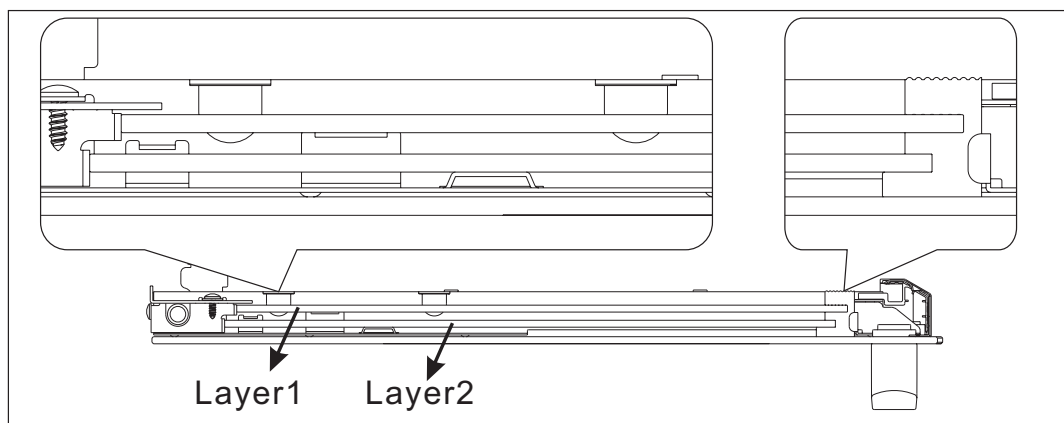

Figure3-1
3、 As shown in Figure 3-1, there are two layers between the door bracket and the rubber bumper, the middle glass can be inserted into the empty area between the two layers. For removal of the middle glass, user can refer to step 1 and step 2 shown in Figure 3-2, remove the middle glass in layer 1 first, then follow the step 1 and step 2 shown in Figure 3-3 to remove the middle glass in layer 2. After cleaning of the middle glasses, assemble the middle glass in layer 2 and also the rubber bumper first, then assemble the middle glass in layer 1. Check if the bumpers are well positioned after the installation of middle glass as shown in Figure 3-1. In case if there is only 1 middle glass, then assemble the middle glass in layer 1.